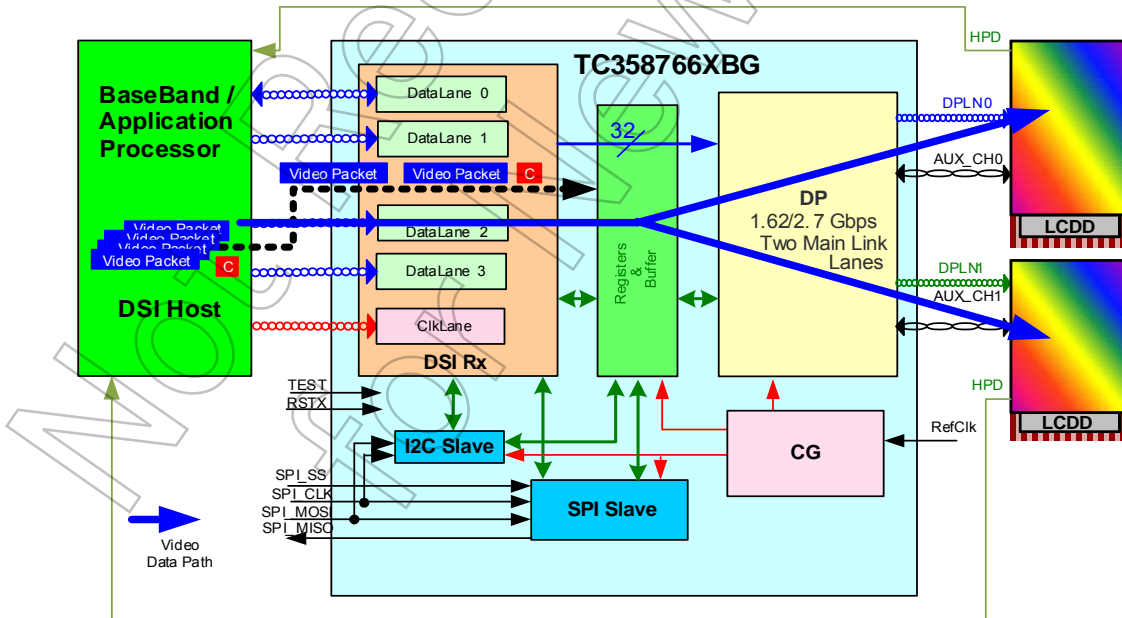

Figure 1.2 System Overview with TC358766XBG in MODE_S22 Configuration
- Mode_S22: An alternate system configuration where TC358766XBG may typically be used is shown in Figure 1.2. In this system, TC358766XBG could be connected to two independent displays. In this configuration, the TC358766XBG can support displays with resolution up to WXGA+, WSXGA (1440x900) at 24bit, 60 fps or WSXGA+ (1680x1050) at 18bit, 60 fps. Video stream source is from DSI Host. Both display devices are used to display the same video stream.